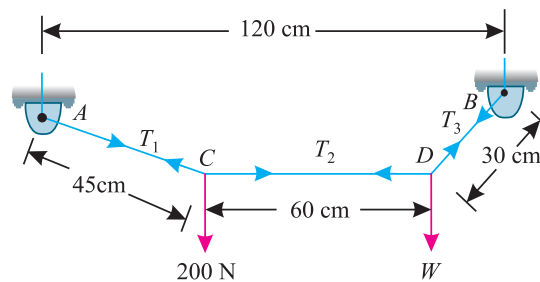

Fig. 5.10.
4. A rope is connected between two points  $A$  and  $B$  120 cm apart at the same level. A load of 200 N is suspended from a point  $C$  on the rope 45 cm from  $A$  as shown in Fig. 5.10. Find the load, that should be suspended from the rope  $D$  30 cm from  $B$ , which will keep the rope  $CD$  horizontal. [Ans. 400 N]